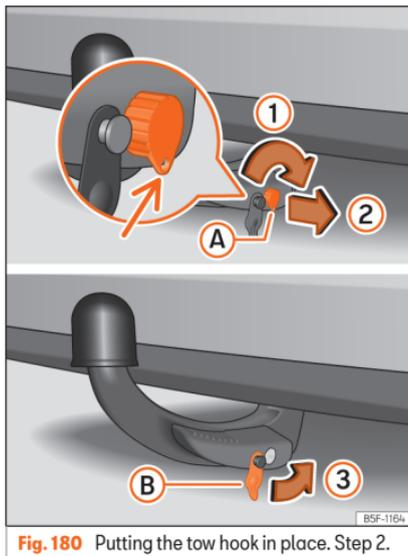

Fig. 180 Putting the tow hook in place. Step 2.
- Turn the key to the right just half a turn, until the hole in the key faces downwards **»» Fig. 180 1**.
- Place the cover **B** on the lock **3** **»» Fig. 180 3** **»» ⓘ**.